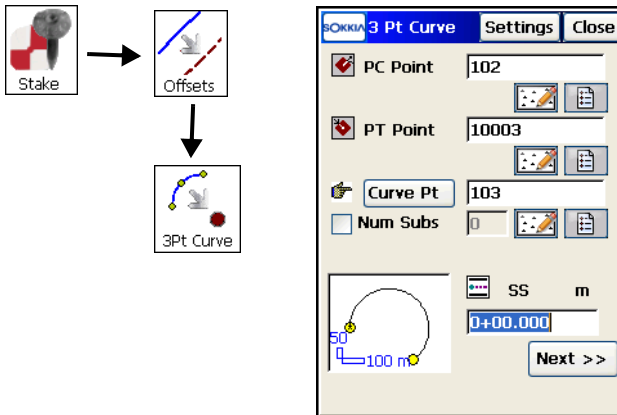

Figure 9-26. Three Point Curve
2. On the *3 Pt Curve* screen (Figure 9-26), enter or select from the list or map the following sets of three known points, to create a curve and tap **Next**: